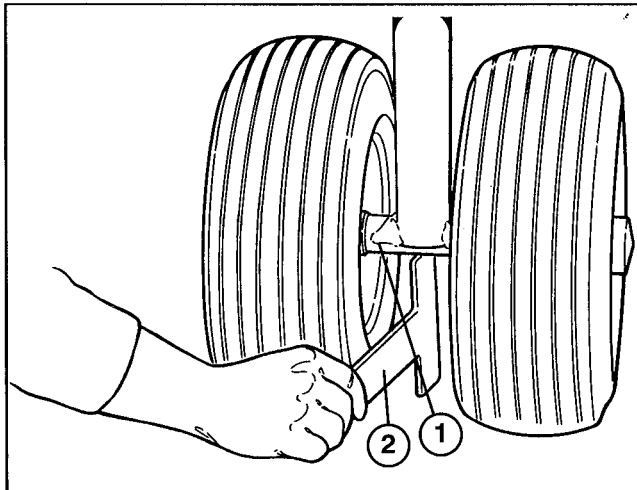

Figure 20
3. Slide short end of frame height gauge under front axle to verify height. Gauge should contact axle when on floor. Check both sides (Fig. 20).